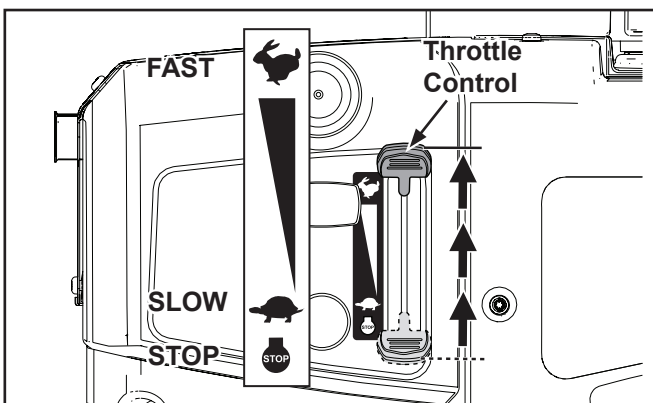
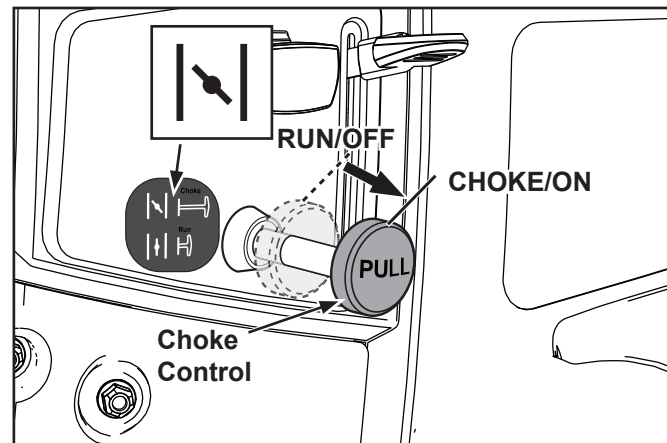

Figure 5. FAST Position of Throttle Control.
Figure 6. CHOKE/ON Position of Choke Control.
2. For a Cold Engine – Place the throttle control to the FAST positions. See Figure 5. Pull the choke control into the CHOKE/ON position. See Figure 6.
For a Warm Engine (normal operating temperatures) – Place the throttle control to the FAST position. See Figure 5. A warm engine usually does not require the choke on.